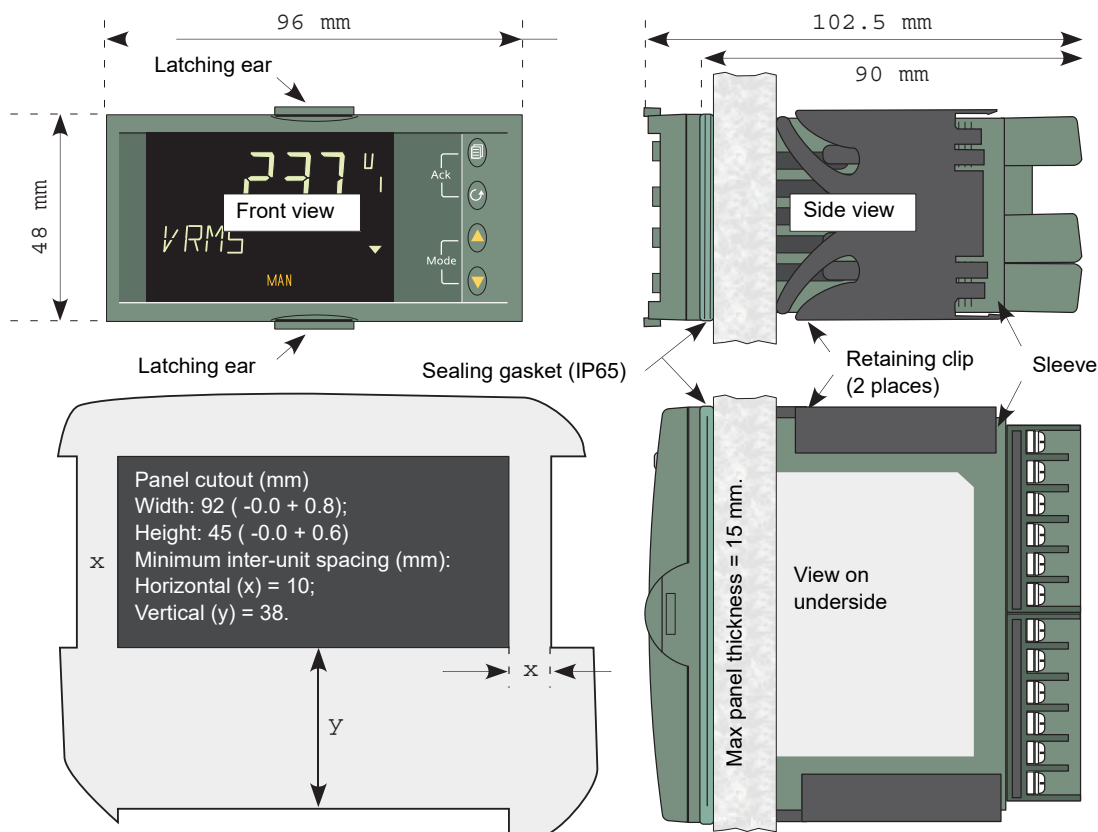

Figure 159 Installation Dimensions Drawing
1. An aperture with dimensions as shown in Figure 159 should be made in the panel.